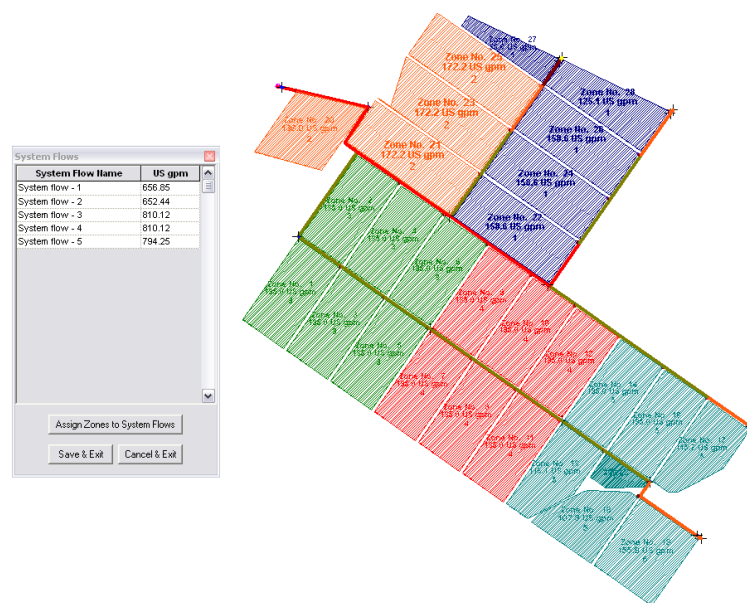

Figure 5-170
7. When the arrangement of zones is acceptable (see Figure 5-170) it can be saved by clicking the [Save & Exit] button or choosing *Save and Exit* from the *Right-click* menu.